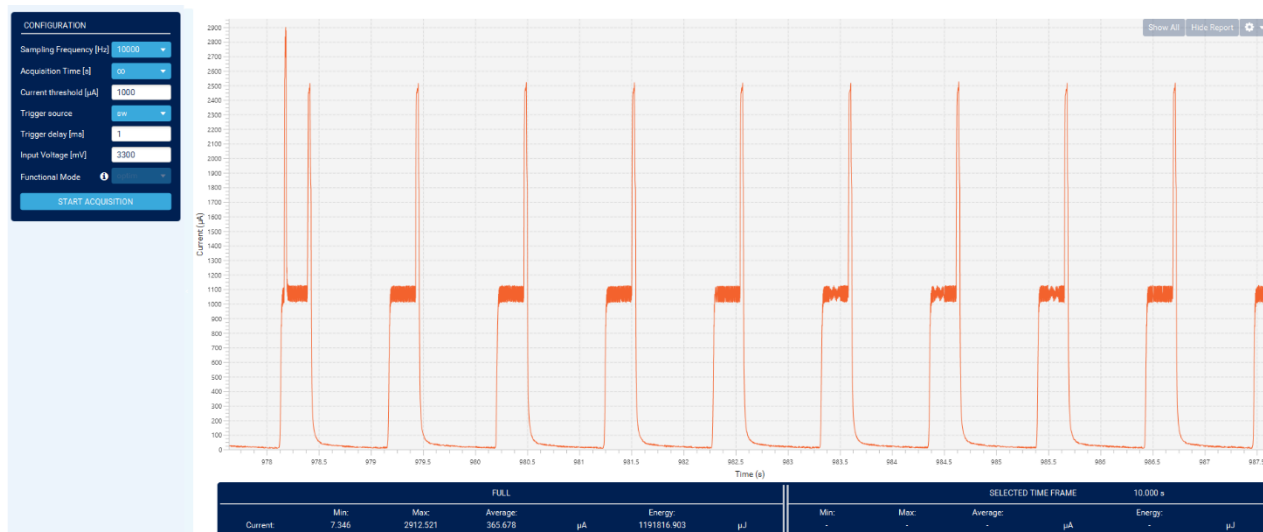

Figure 12 : Real time consumption sending "send data" query every 10 second. Average consumption is 365 µA
- With “send data” query every 10 second (figure 12).